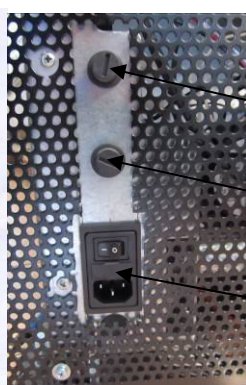

Figure 10
- Put the switch on the back of the stove in position 1. Figure 10